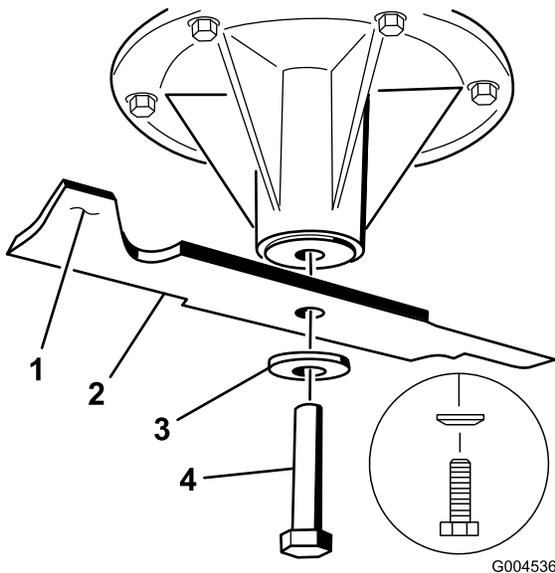

Figure 89
2. Remove the blade bolt, spring disk and blade from the spindle shaft (Figure 89).
the sail area only (Figure 89). Repeat this procedure until the blade is balanced.
1. Install the blade onto the spindle shaft (Figure 89).
2. Install the curved washer and blade bolt. The curved washer cone must be installed toward the bolt head (Figure 89). Torque the blade bolt to 85-110 ft-lb (115-150 N-m).